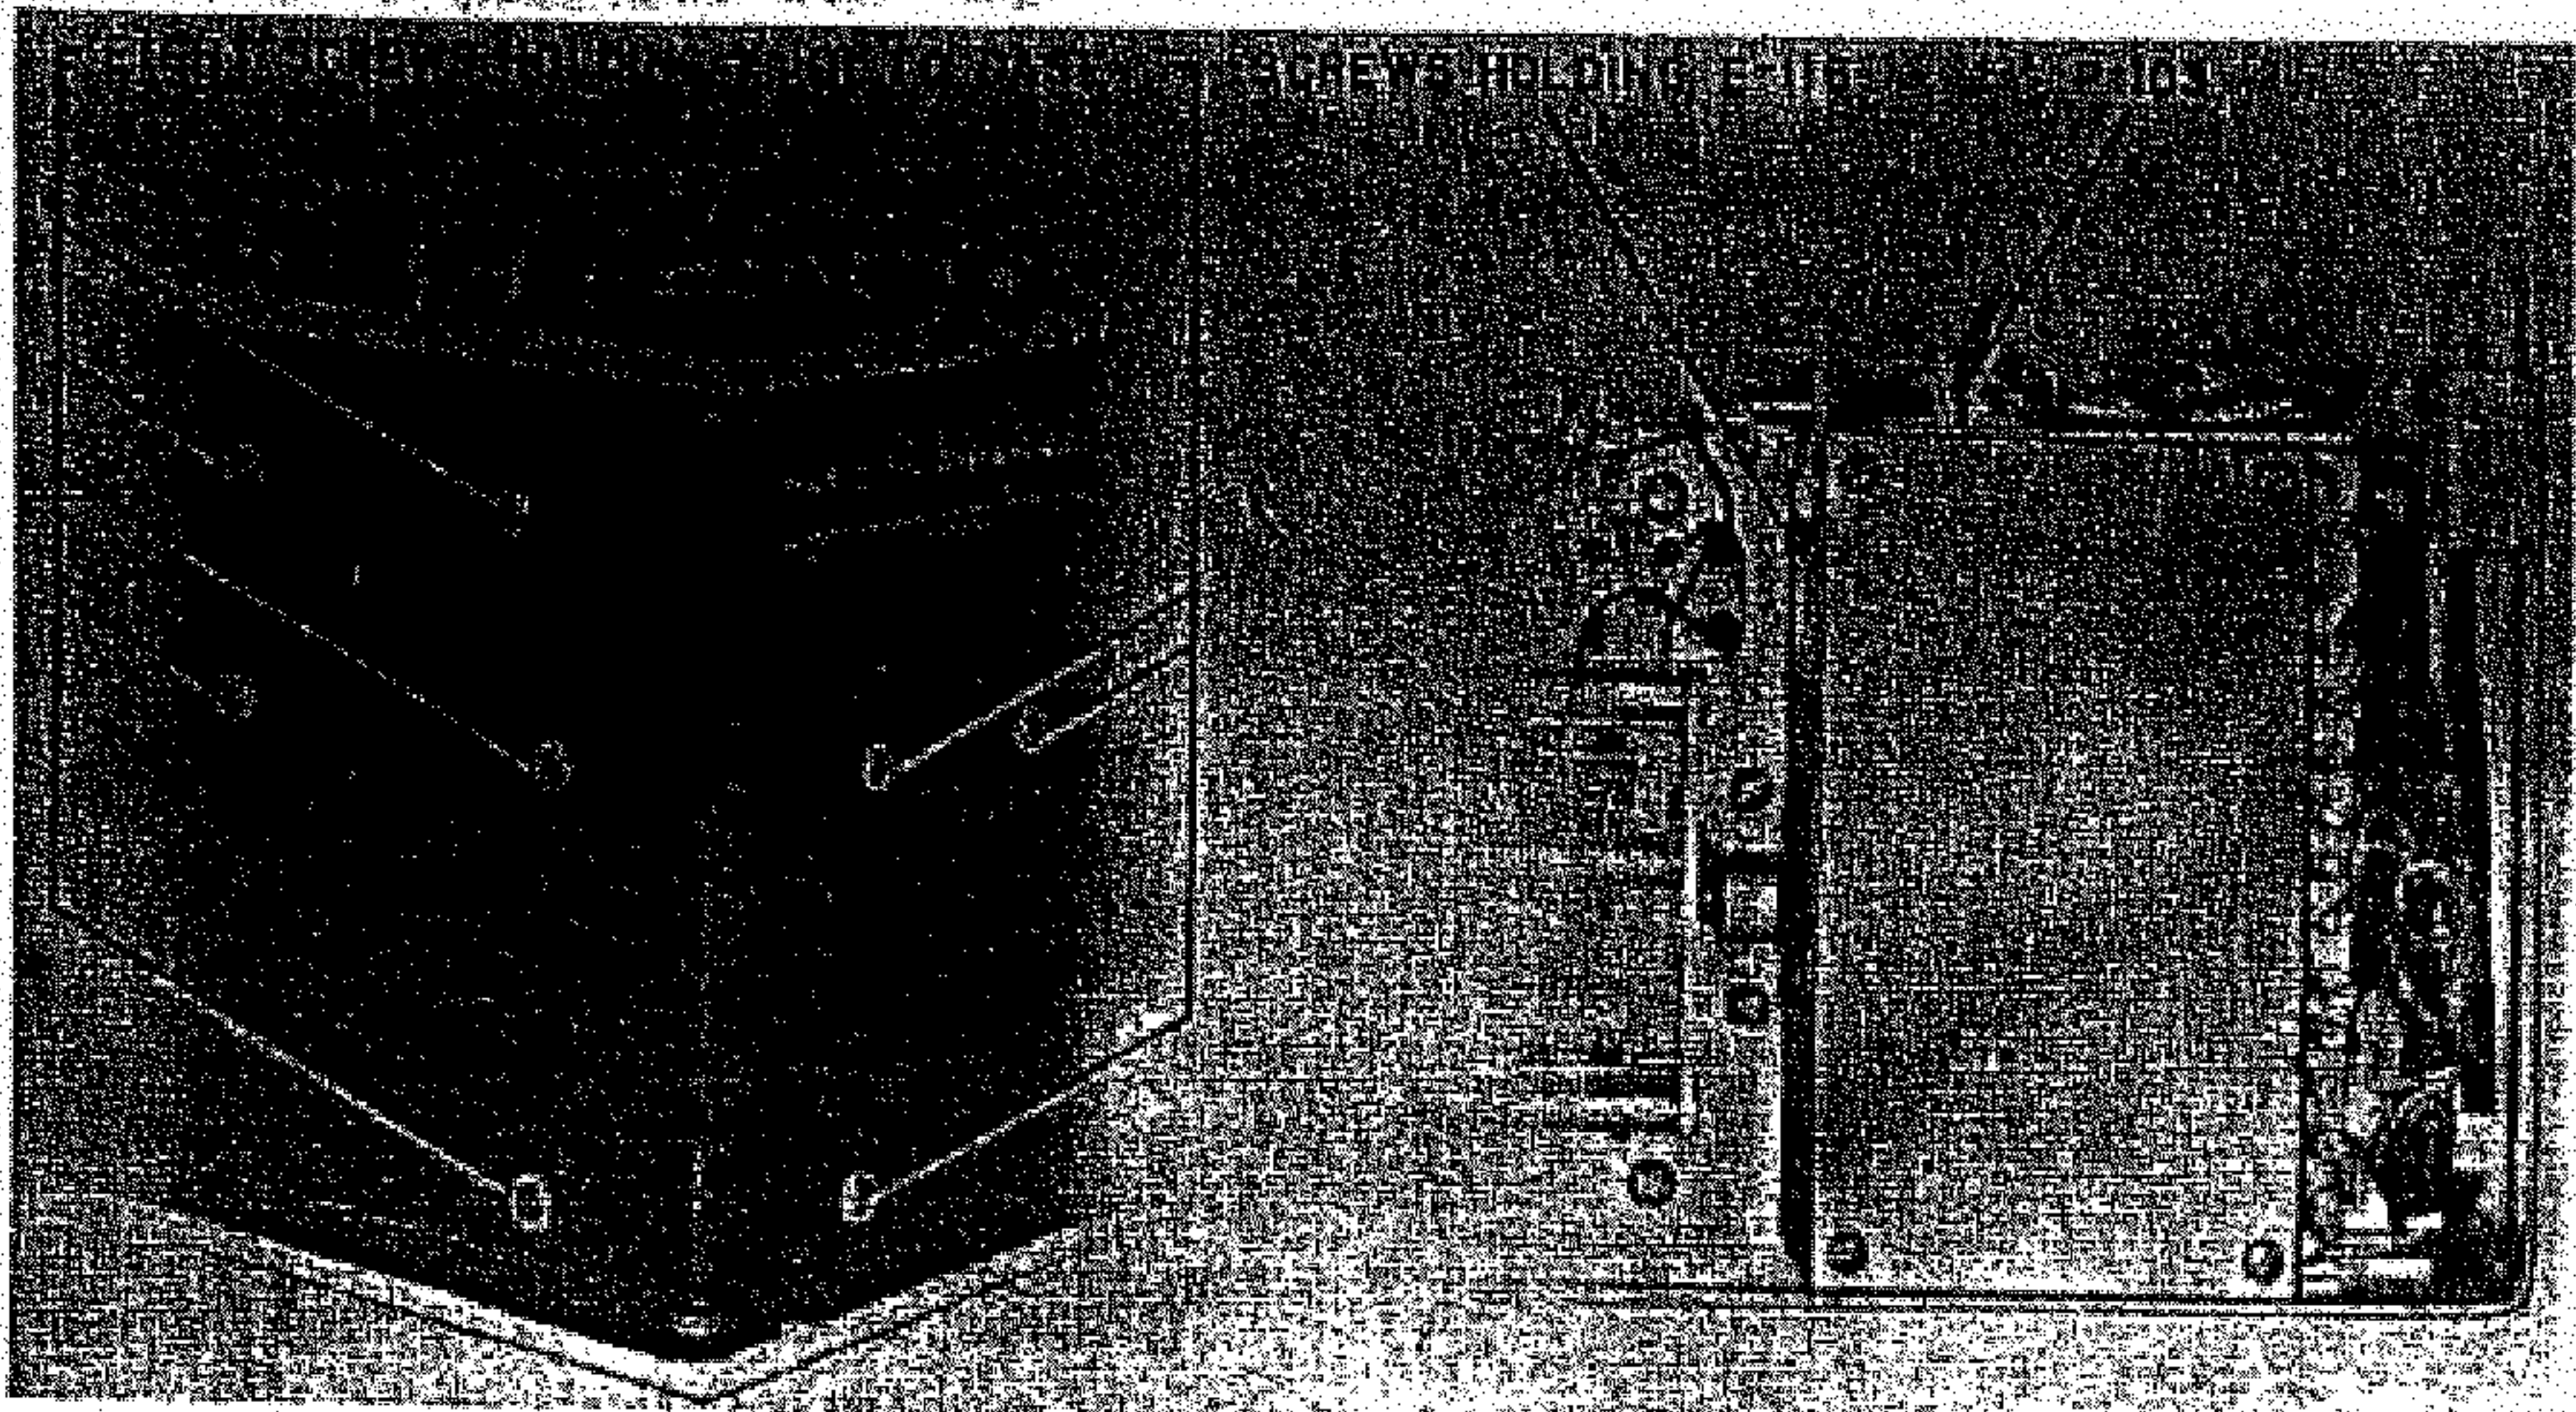

Figure 5-36. Vibrator Inverter Unit Y-101, Removal
(5) VIBRATOR-INVERTER UNIT Y-101. (See figure 5-36.)